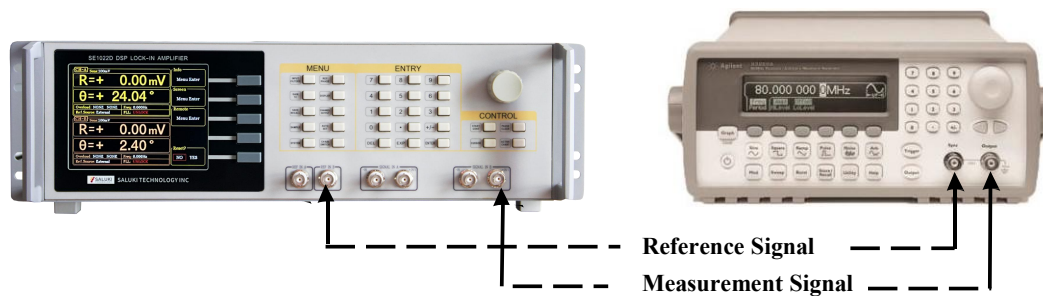

Fig.82 Signal Cable Connection Diagram
2. Use a BNC cable to connect the output of the function signal generator and the A/I input of the SE1022D. Use another BNC cable to connect the reference signal of the function signal generator and the REF IN of the SE1022D, as is shown in Fig.82.